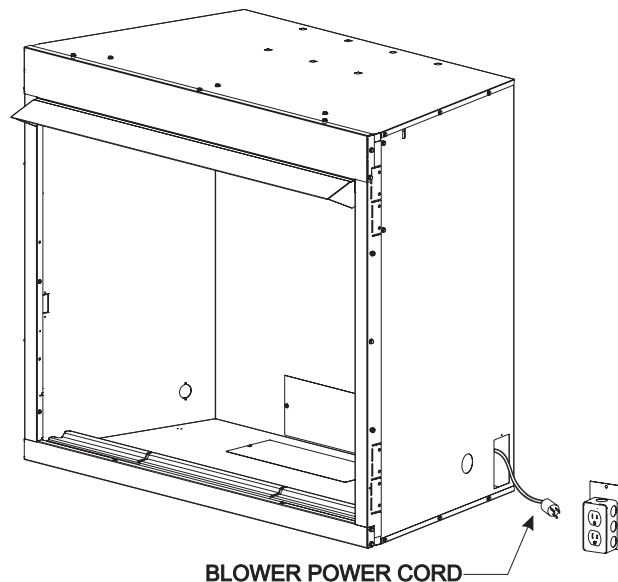

Figure 24
- To complete the installation, plug the power cord into the junction box receptacle at the right rear corner of the firebox outer wrap. **See Figure 24.**